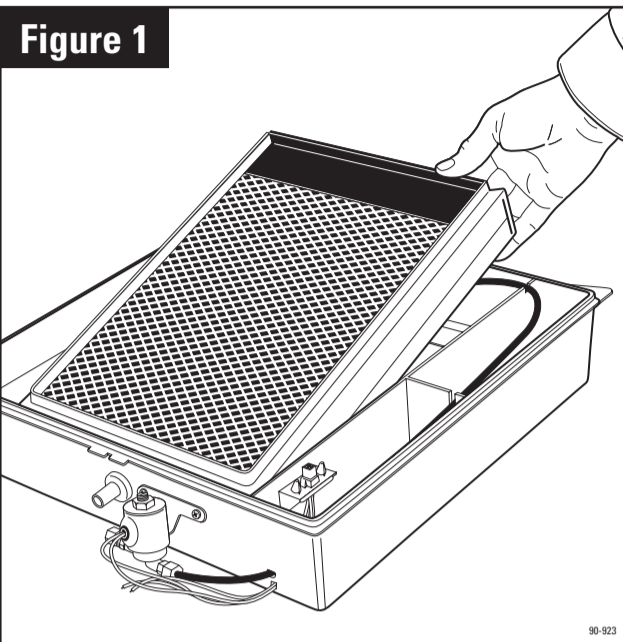

Figure 1
**1.** Place the humidifier on a flat surface. Unlatch humidifier cover assembly from base assembly at the bottom of the cover, lift and set aside. Pull out the evaporative assembly by grasping at the top and tipping out. (See Figure 1)